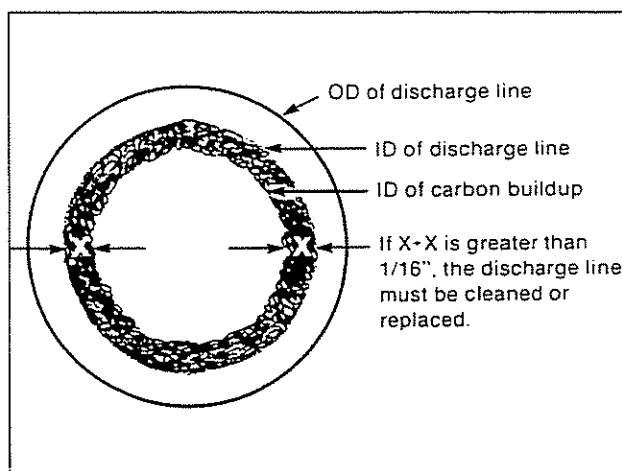

Fig. 2-68, (QM21009). Air discharge line
4. Inspect the air discharge line from the air compressor. If the total carbon deposit thickness (Fig. 2-68) inside the air discharge line exceeds 1/16 inch, remove the head and clean the air passages thoroughly. Also remove and clean or replace the discharge line. Contact the nearest Cummins Distributor or refer to Cummins Bulletin 3379056, "Air Equipment Rebuild Manual" for removing the air compressor head.